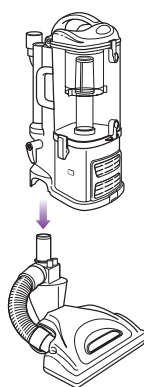

Fig. 9
- 2 Align the tube of the floor nozzle with the tube on the *Lift-Away*® canister and lower until you hear the two pieces click into place. **(Fig. 9)**